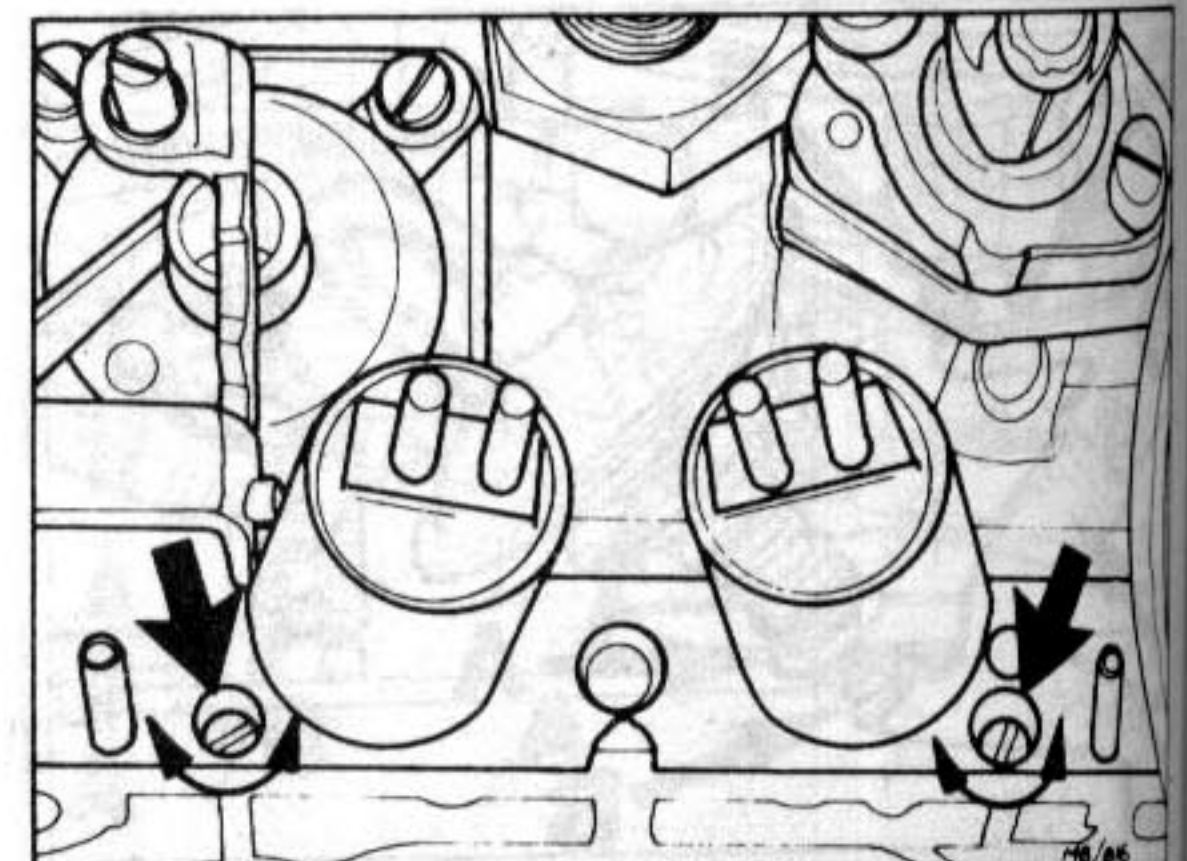

Fig. 3 Idle mixture adjustment screws
- If values are not equal, remove tamperproof plugs from two idle mixture adjustment screws and turn screws as necessary to correct (Fig. 3).